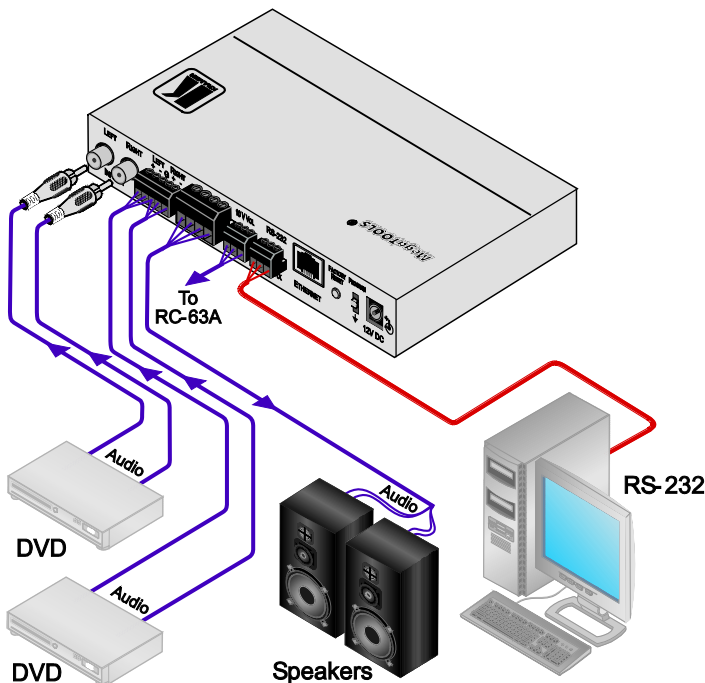

Figure 2: Connecting the 906 Audio Amplifier
To connect the **906**, as illustrated in the example in Figure 2, do the following:
4. Connect the 12V DC power adapter to the power socket and connect the adapter to the mains electricity (not shown in Figure 2).